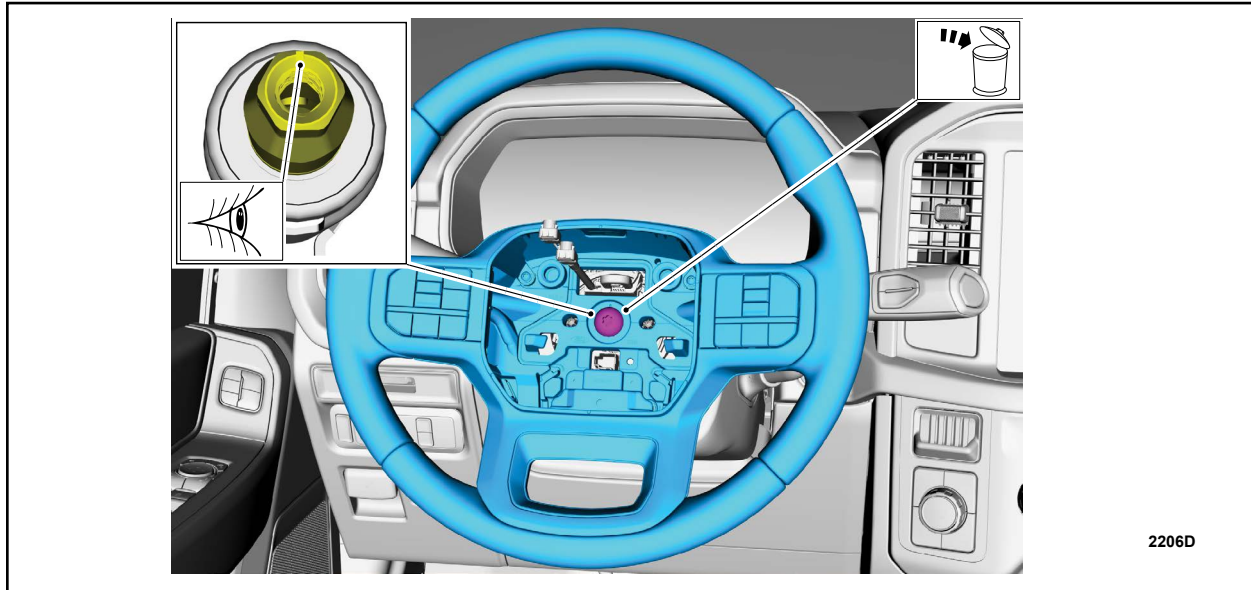

FIGURE 2
4. Remove and discard the steering wheel bolt and remove the steering wheel. See Figure 2.